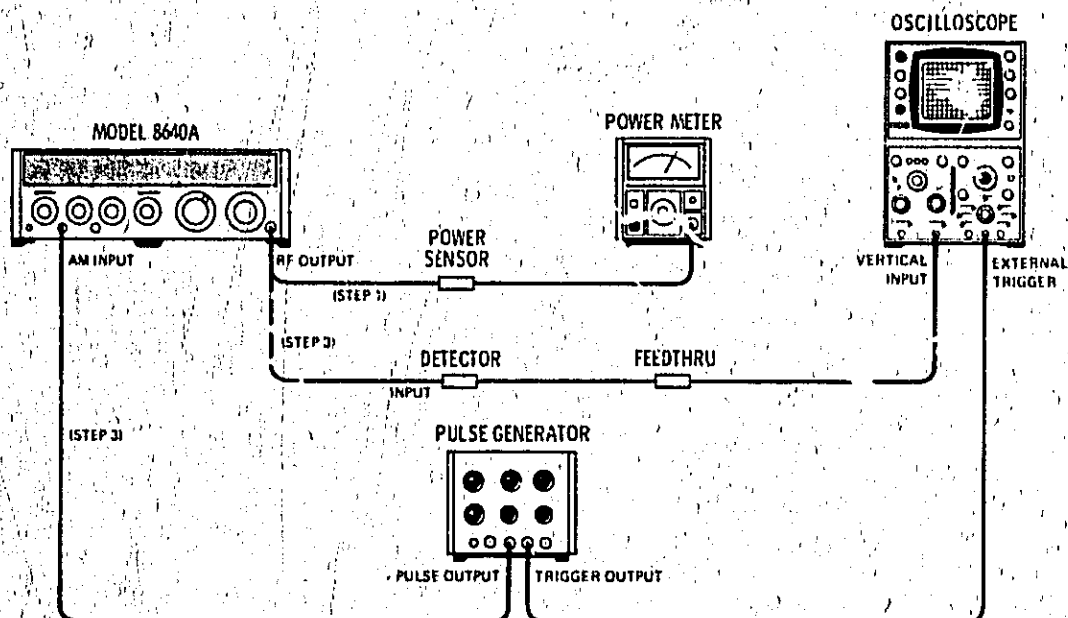

Figure 5-1. Doubler Gain Adjustment Test Setup (Option 002)
1. Connect generator to power sensor and meter as shown in Figure 5-1. Set Signal Generator's controls as follows:
3. Connect generator to detector, feedthrough, and oscilloscope and to pulse generator as shown in Figure 5-1 after setting Signal Generator's controls as follows: